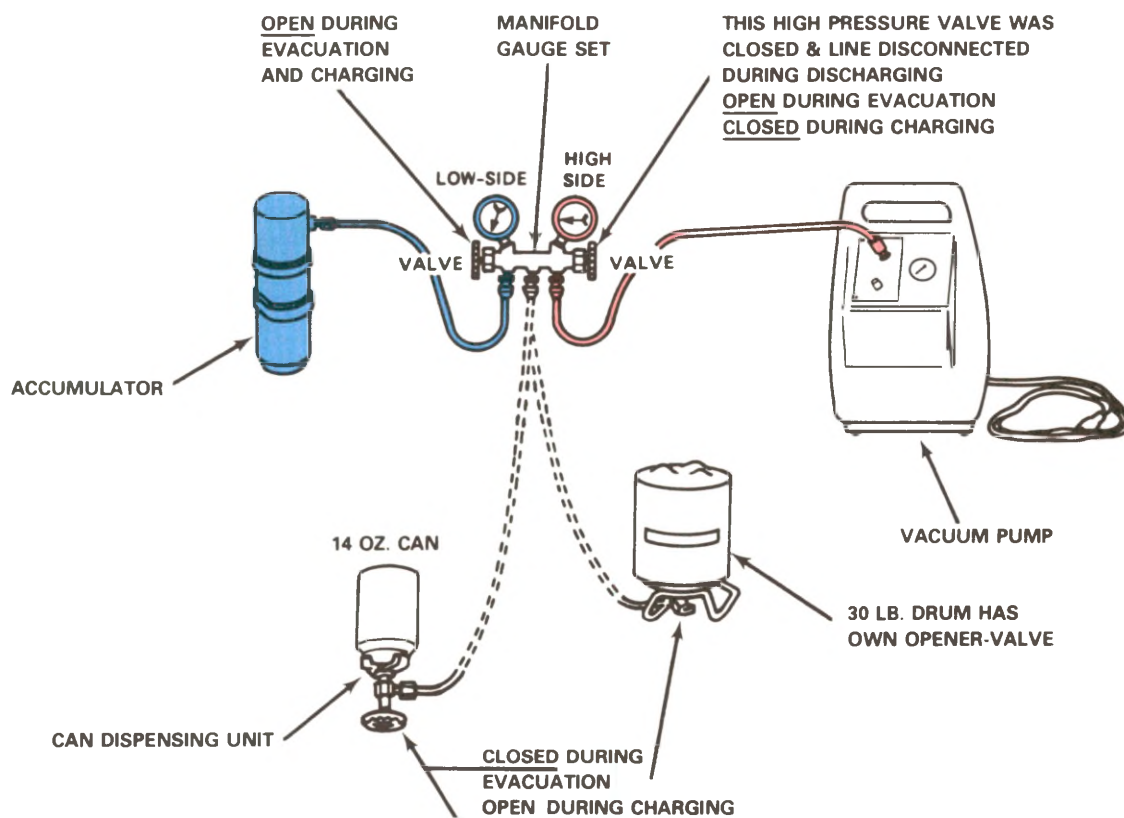

Fig. 3-8 — Evacuating and Charging
EVACUATING THE SYSTEM (Fig. 3-8)
3. With the manifold gauge set and vacuum pump connected as shown in Fig. 3-8, begin evacuation by opening the high and low side gauge valves with the vacuum pump operating.
CHARGING THE SYSTEM (Fig. 3-8)